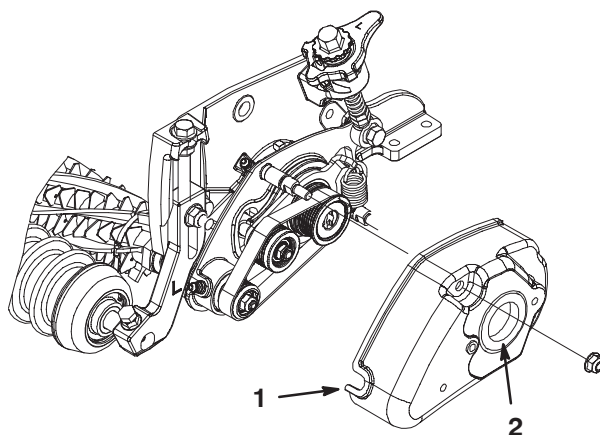

Figure 20
6. Install the groomer cover and secure with (2) 5/16 inch flange nuts (Fig. 20).
7. Apply grease to the inside diameter of the grommet in the groomer cover (Fig. 20).